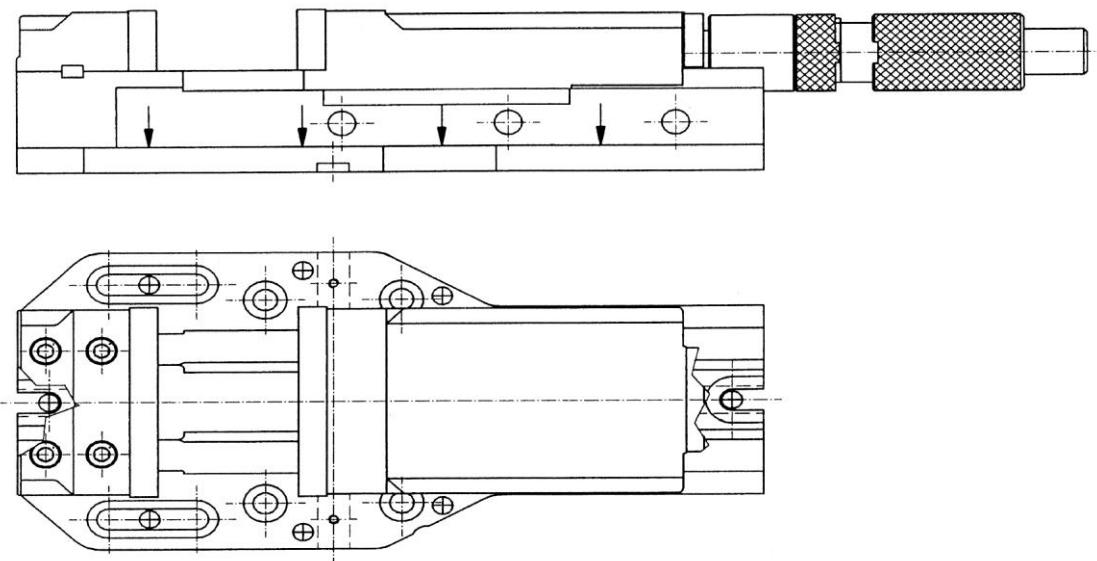

Fig. 3. Recommended vice fastening points on the lathe table with fastening screws and pressure lugs.
- b) If required is higher precision of machining (minimisation of displacement of a workpiece as a result of body deformation) it is recommended to apply additional pressure lugs in places shown on the fig. 3.